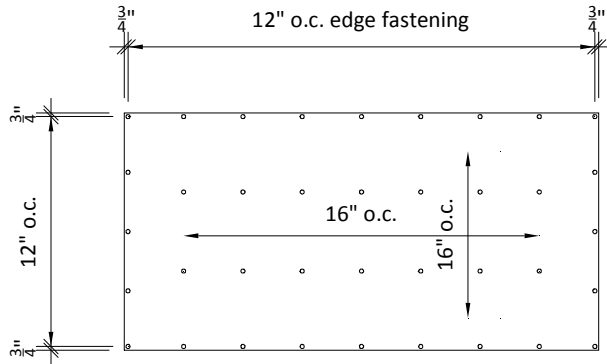

Fig. 6 - Fastener Spacing Diagram
- Fastener spacing is typically 12" on center along all edges of the panel and 16" on center throughout the middle of the panel. To ensure that the edges do not become damaged fasteners should remain a minimum $\frac{3}{4}$ " from panel edges. See fig. 6